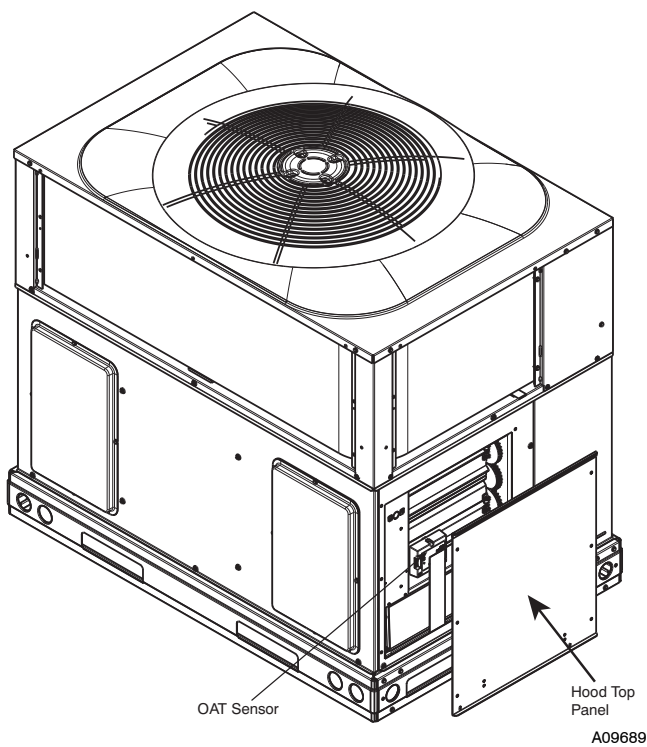

Fig. 23 - Economizer Hood Top Panel Removal
2. Remove economizer hood top panel from the return side of the unit. See Fig. 23. Keep screws and panel next to the unit.